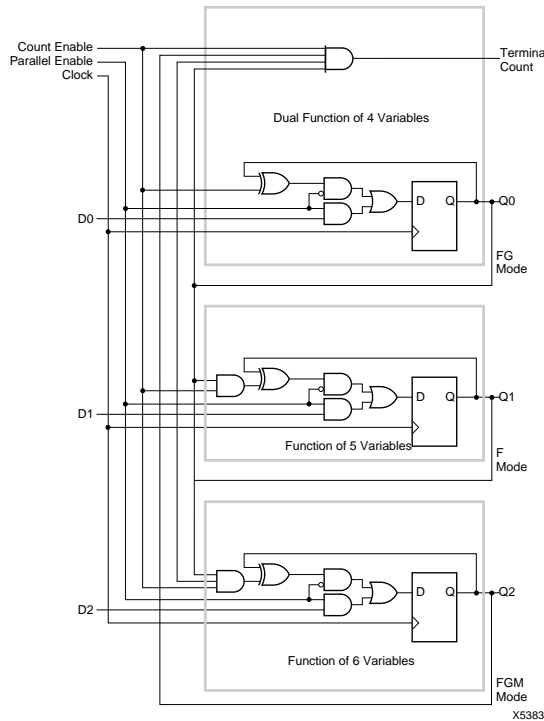

Figure 7: Counter.
The combinational-logic portion of the CLB uses a 32 by 1 look-up table to implement Boolean functions. Variables selected from the five logic inputs and two internal block flip-flops are used as table address inputs. The combinational propagation delay through the network is independent of the logic function generated and is spike free for single input variable changes. This technique can generate two independent logic functions of up to four variables each as shown in Figure 6a, or a single function of five variables as shown in Figure 6b, or some functions of seven variables as shown in Figure 6c. **Figure 7** shows a modulo-8 binary counter with parallel enable. It uses one CLB of each type. The partial functions of six or seven variables are implemented using the input variable (E) to dynamically select between two functions of four different variables. For the two functions of four variables each, the independent results (F and G) may be used as data inputs to either flip-flop or either logic block output. For the single function of five variables and merged functions of six or seven variables, the F and G outputs are identical. Symmetry of the F and G functions and the flip-flops allows the interchange of CLB outputs to optimize routing efficiencies of the networks interconnecting the CLBs and IOBs.